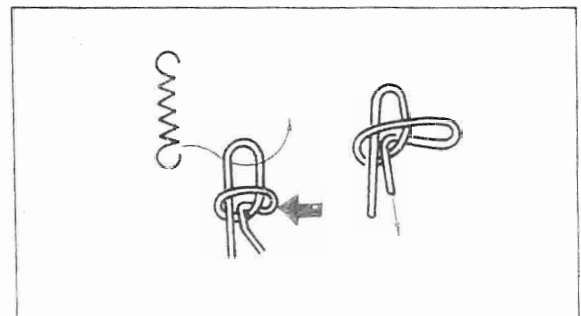

Fig. 2-3. Tying square knot in the tension spring
4. Tie the end of the cord to a spring as shown in Fig. 2-3.